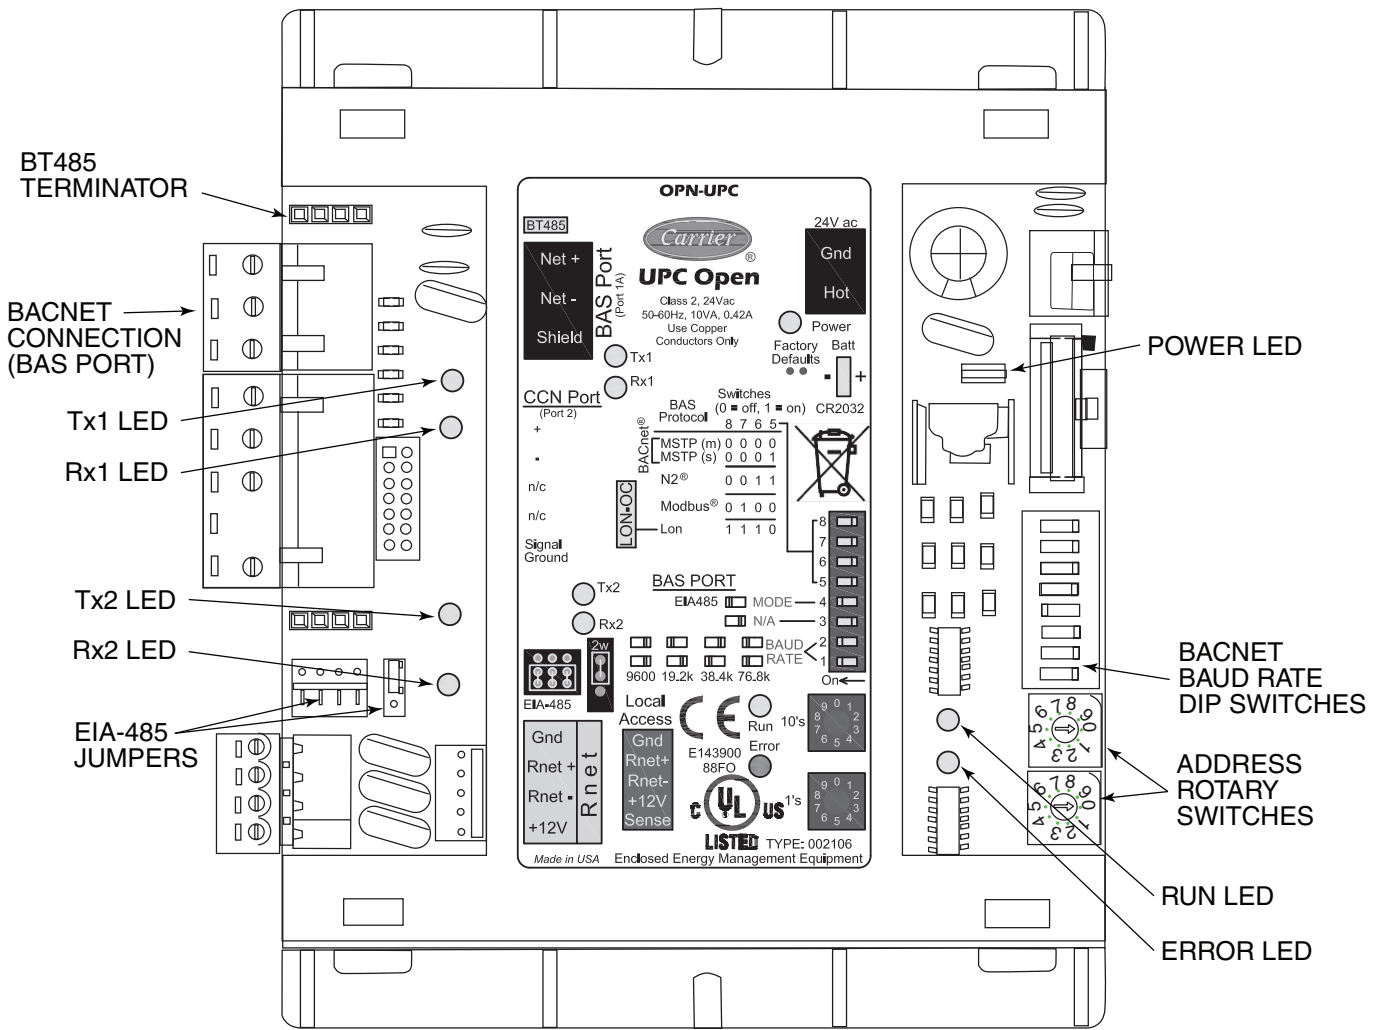

Fig. 25 — UPC Open Controller
2. Using the rotary switches (see Fig. 25 and 28), set the controller's address. Set the Tens (10's) switch to the tens digit of the address, and set the Ones (1's) switch to the ones digit.